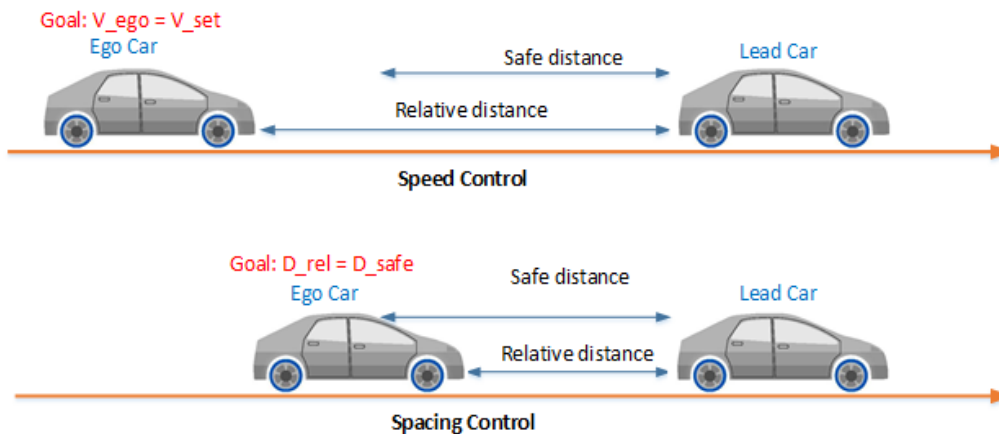

Fig. 1: Schematic of speed and distance control principles in adaptive cruise control
- *Have you seen how adaptive cruise control maintains your vehicle at a safe distance from the car ahead no matter how fast or slow they drive (see Fig. 1)?*